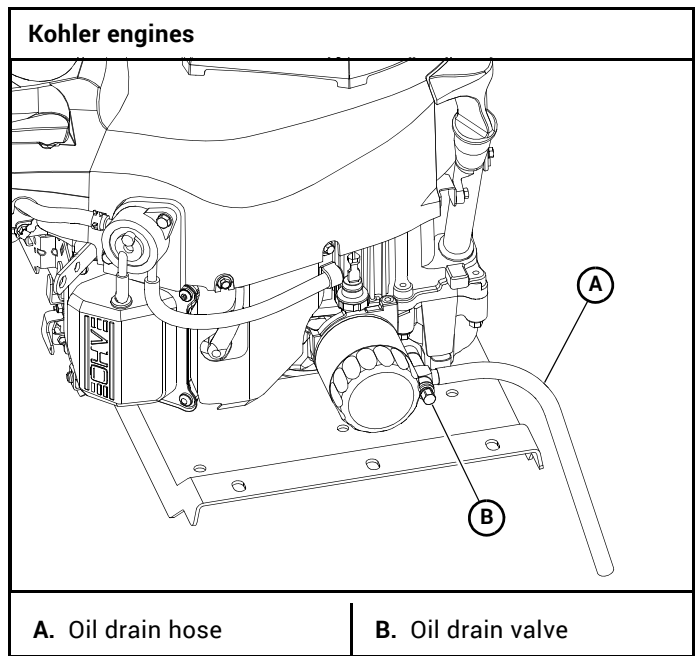
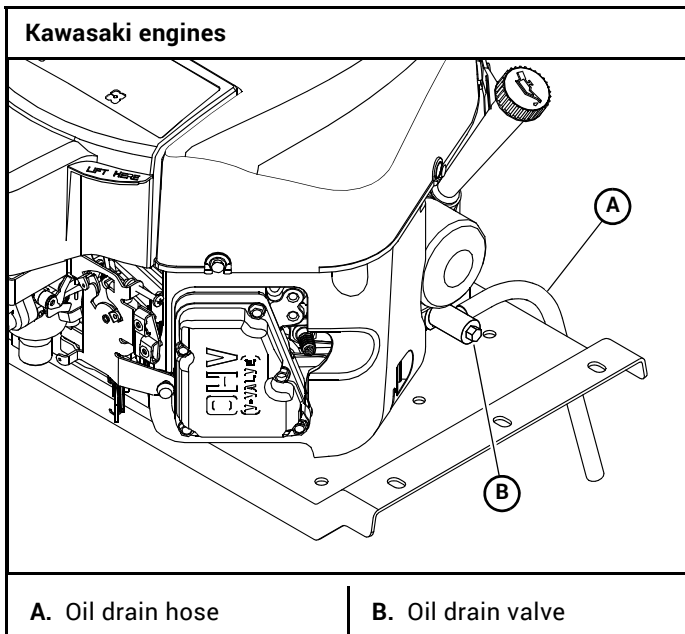

Figure 4-6
Figure 4-5
2. Locate the oil drain hose that was supplied with the machine. Be sure to clean and clear it of debris that might block the flow of the engine oil. Figure 4-5 & Figure 4-6
3. Attach one end of the hose onto the oil drain valve nipple. Make sure the hose is pushed all the way onto the valve. Figure 4-5 & Figure 4-6
8. Clean the oil drain hose and store it appropriately. Figure 4-5 & Figure 4-6